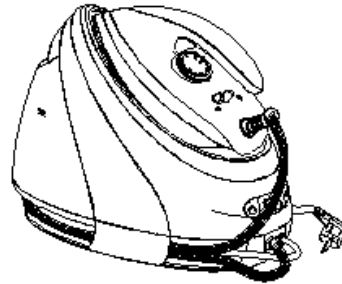

Fig. 5
6. Follow the operation as below to store the steam supply hose and power cord along the cord winding groove: firstly, fold the steam supply hose in two and wind it along the cord winding groove, then fix it at the cord winding groove; secondly, fold the power cord in two and wind it along the cord winding groove, then fix it at the cord winding groove (See Fig.5).